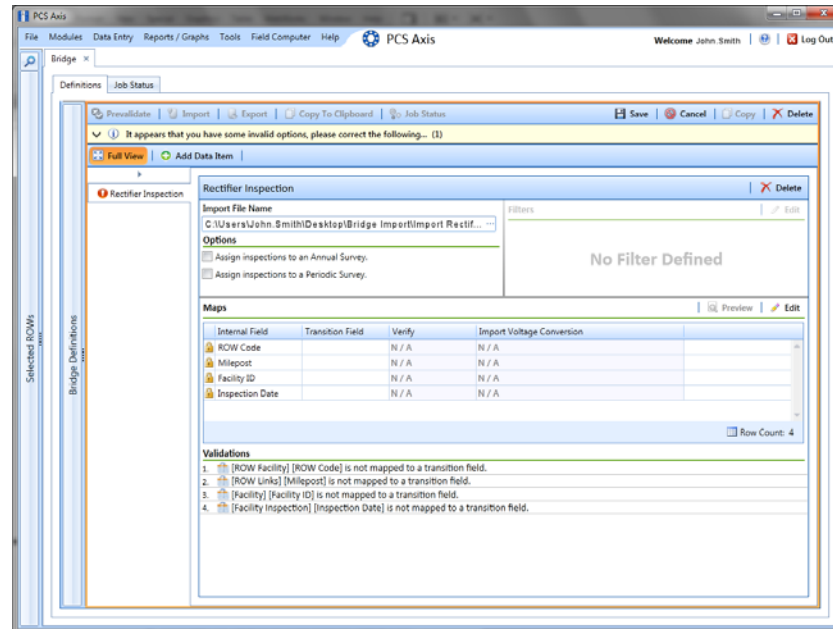

Figure 9-8. Definition
- 9 Identify the location of the import file using the following steps (Figure 9-8, page 395):
- 10 To assign inspections to a survey folder based on the inspection date, complete one or both of the following steps in the *Options* group box as required (Figure 9-8, page 395):